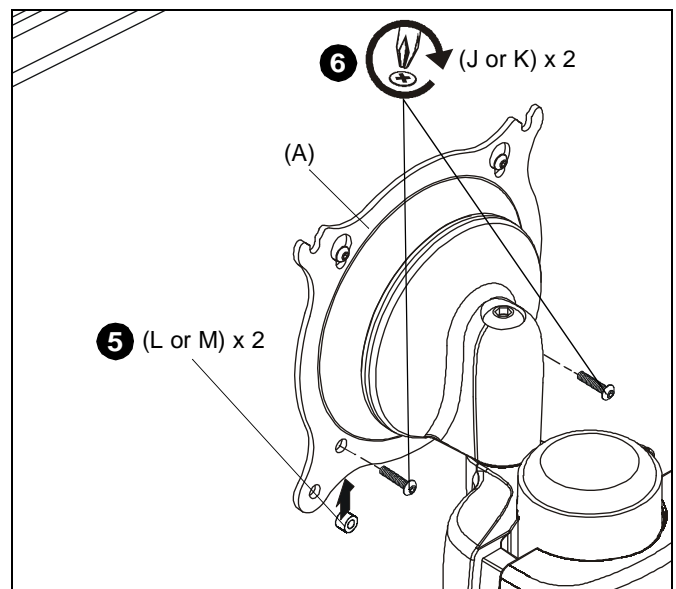

Figure 7
5. Slide two remaining selected spacers (L or M) in between faceplate and display, positioning them over the *lower* two mounting holes. (See Figure 7)
6. Install two remaining selected screws (J or K) through *lower* two mounting holes on faceplate, selected spacers (L or M) into the *lower* mounting holes on the display. (See Figure 7)